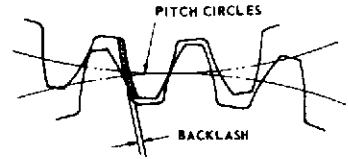

FIGURE 1.12 — BACKLASH
- 1.33 **Backlash** is the amount by which the width of a tooth space exceeds the thickness of the engaging tooth on the operating pitch circles. (Figure 1.12)